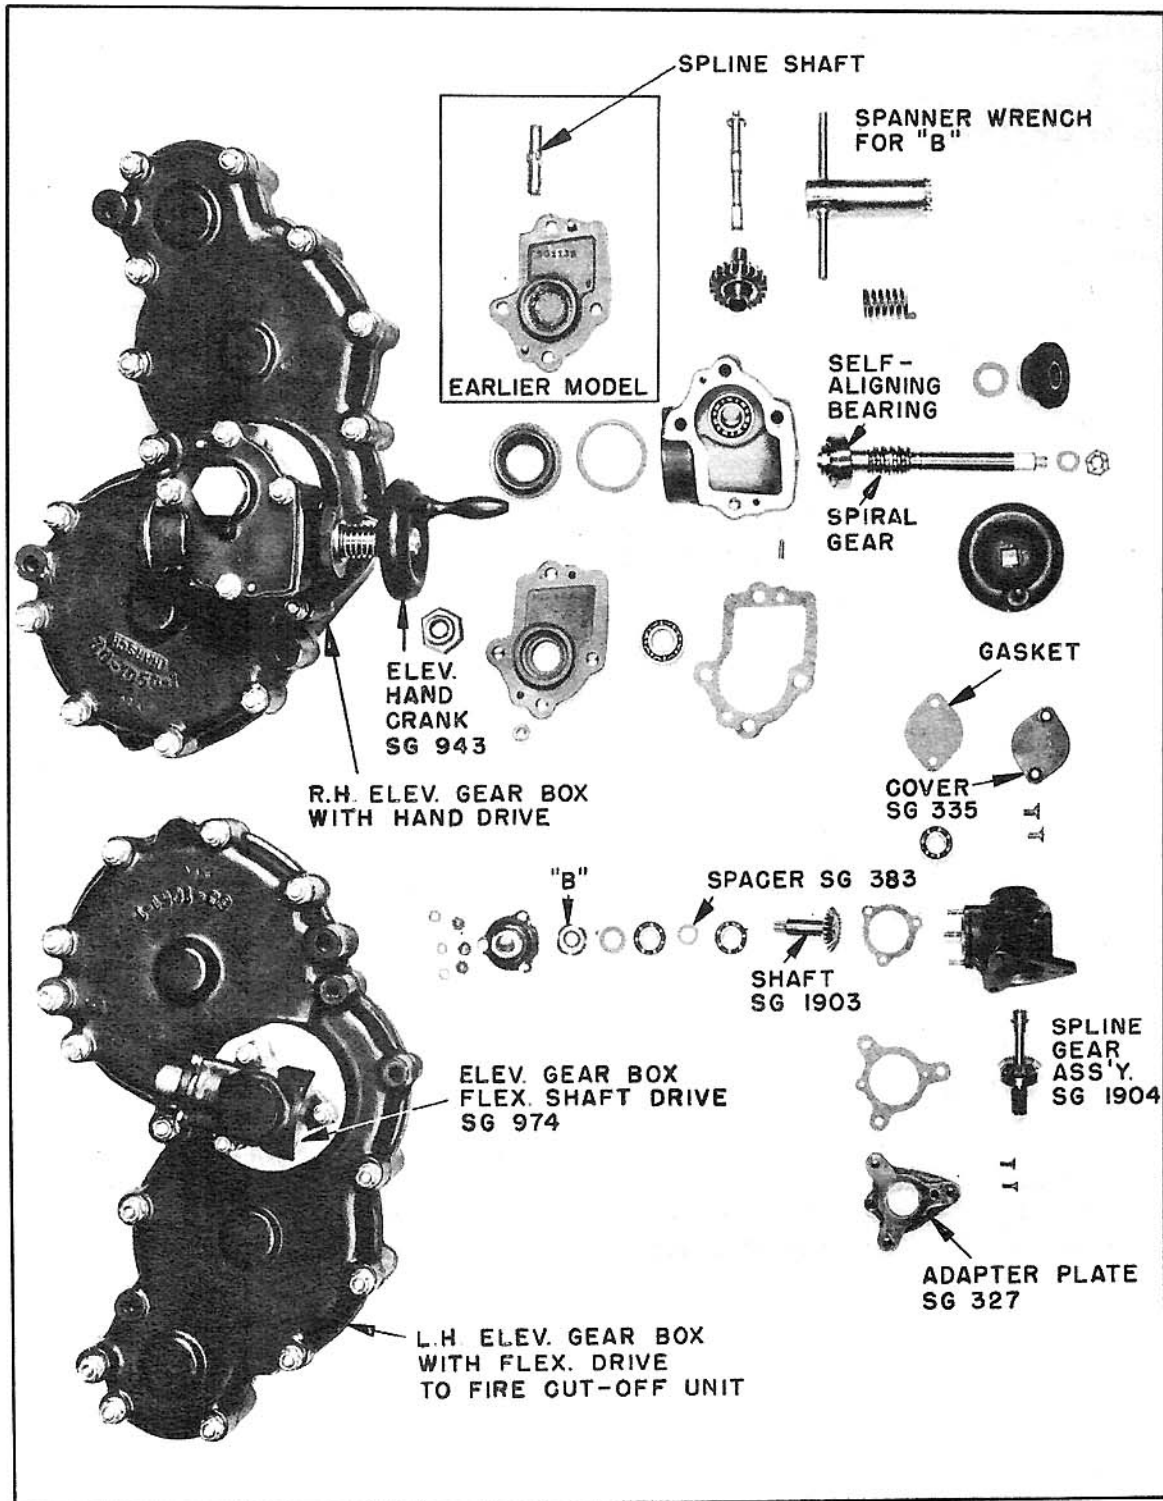

FIGURE 19
(a) Mount the elevation hand drive assembly (Figure 19) on the 3 studs of the
k. Elevation to Fire Cut-Off Flexible Drive. - (1) (See Figure 19.) Remove adapter plate (SG 327) and then remove spline gear assembly (SG 1904). If it is necessary to take off the gear, remove ball bearing and pin.